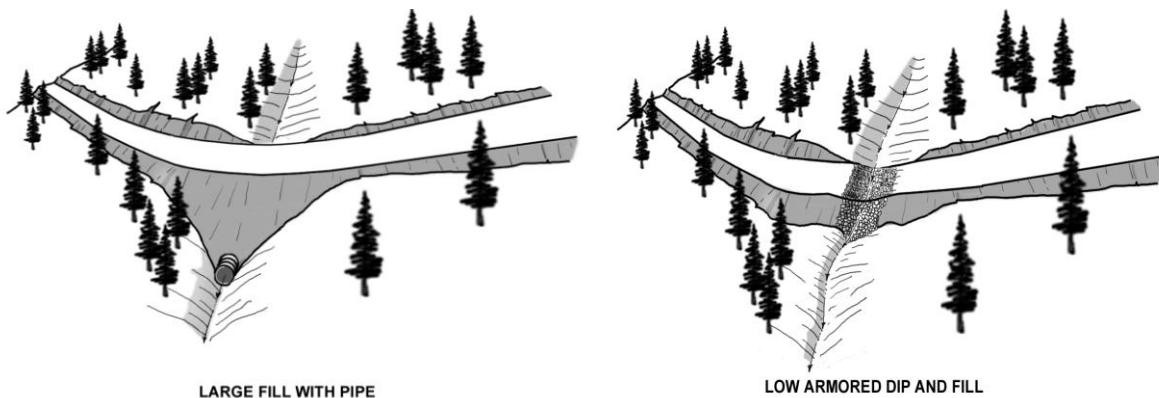

Figure 1.3 A large fill versus small fill and armored dip on a low-volume road, thus minimizing ground disturbance.
- To minimize ground and drainage channel disturbance (see Figure 1.3);